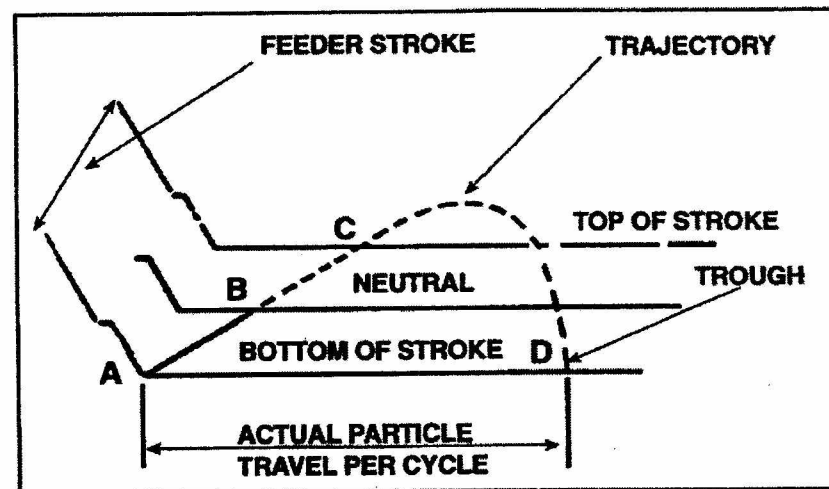

FIGURE 2 - MATERIAL FLOW ON TROUGH
Figure 2 illustrates the action of a single particle of the material moving along the trough surface. During a vibration cycle, the trough surface travels between its lowest point (A) to its highest limit (C). The trough travels at its greatest velocity between (A) and (B), although still traveling up and forward, the trough decelerates between (B) and (C). On the upward stroke, the particle of material is in contact with the trough from (A) to (B). At point (B) the velocity of the particle becomes greater than the trough and the particle leaves the trough surface on a free flight trajectory from (B) to (D). The particle lands back on the trough